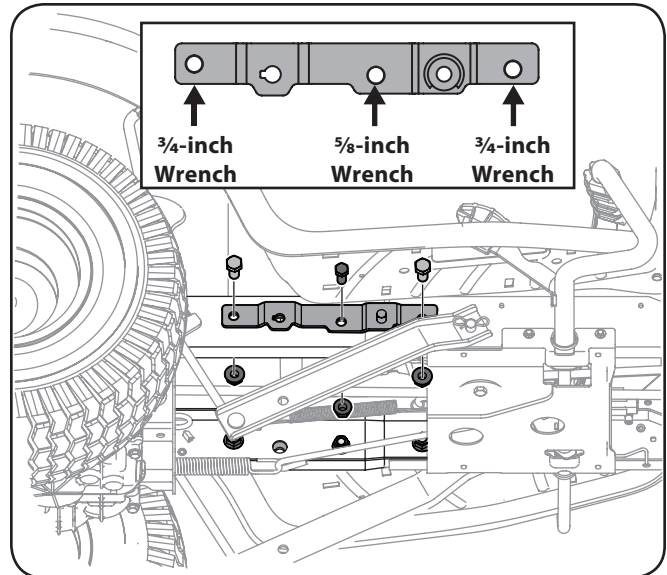

Figure 3-2
2. Secure the right carriage support bracket marked with an "R" to the outside of the tractor's frame with three hex screws and flange lock nuts as shown in Figure 3-2.